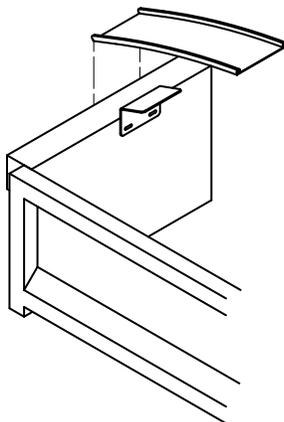

Figure 13-2
2) **Figures 13-2 & 13-3.** Position Angle Bracket Trough with the slotted holes against the trailer and clamp to trough.